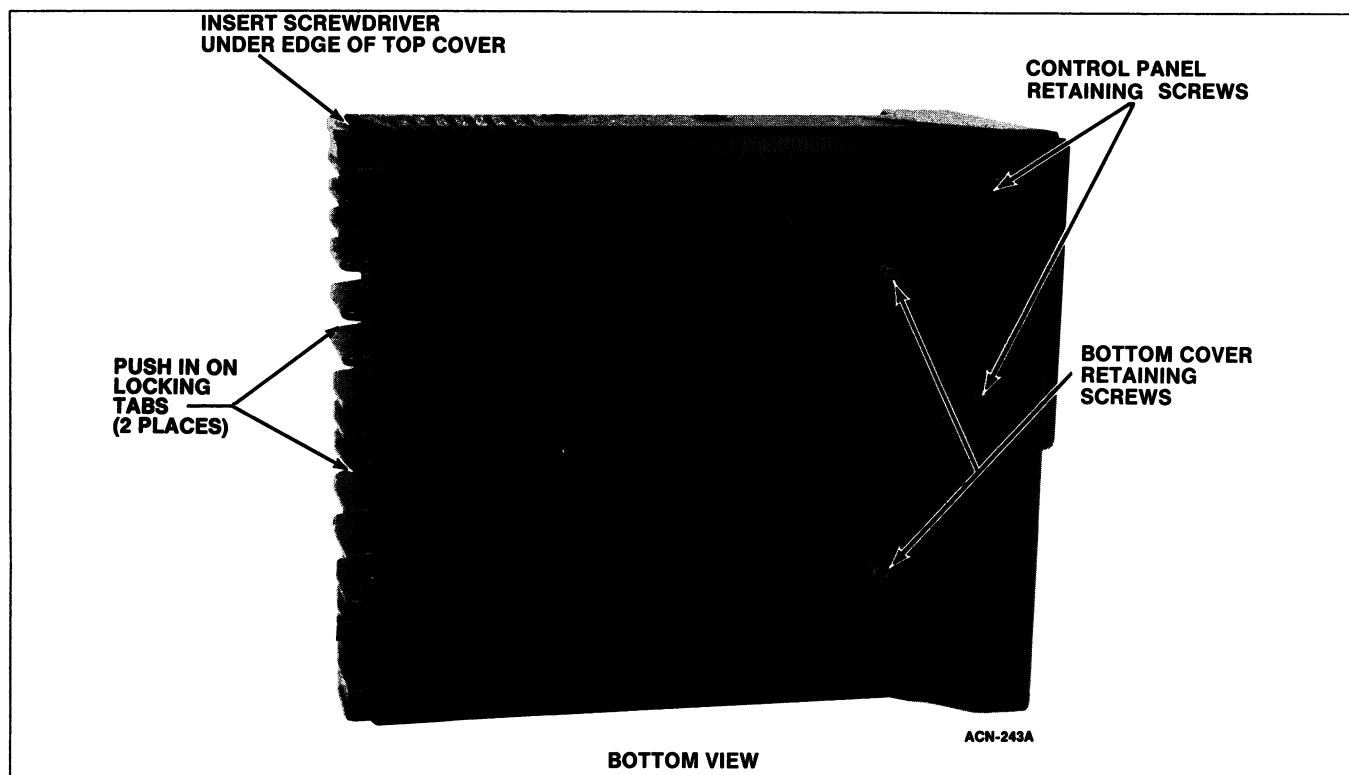

FIGURE 1 - REMOVAL OF THE TOP AND BOTTOM COVER
1. Insert a small standard screwdriver under one side of the top cover and gently pry the side of the cover away from the frame releasing the locking tab (refer to Figure 1).
Remove the two screws securing the bottom cover to the radio. One of the screws is used to hold the microphone strain relief (refer to Figure 1). The bottom cover can then be removed from the radio.